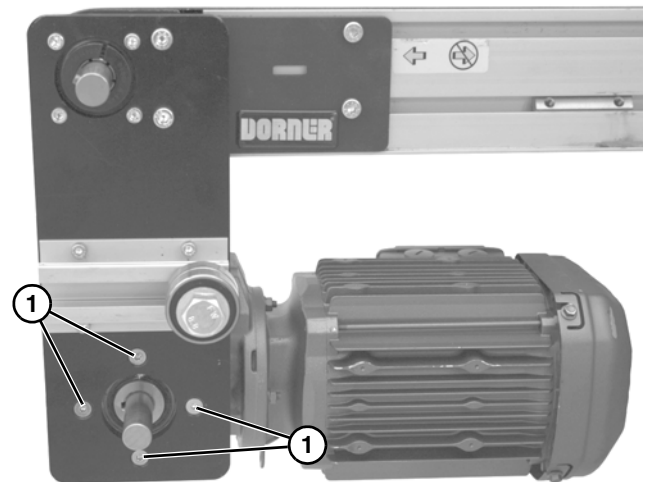

Figure 28
- Remove four (4) gear motor mounting screws (**Figure 28, item 1**). Remove gearmotor.
- Install gearmotor to mounting bracket and tighten screws (**Figure 28, item 1**) to 110 in-lb (12 Nm).